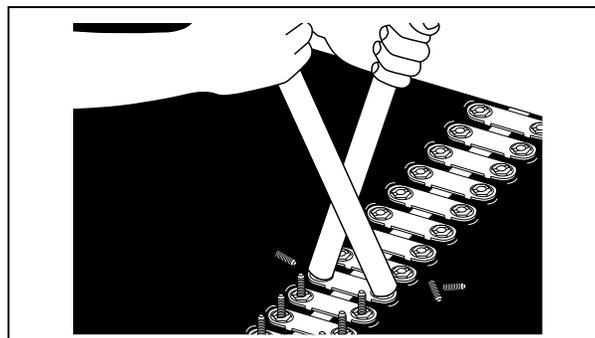

Figure 4O
- Break off excess bolt ends using the two (2) bolt breakers. On belts thicker than 9.6 mm rubber covers, retighten all nuts after a few hours of running. Grind sharp edges of broken bolt ends until they are smooth and do not protrude. (See Figure 4O.)